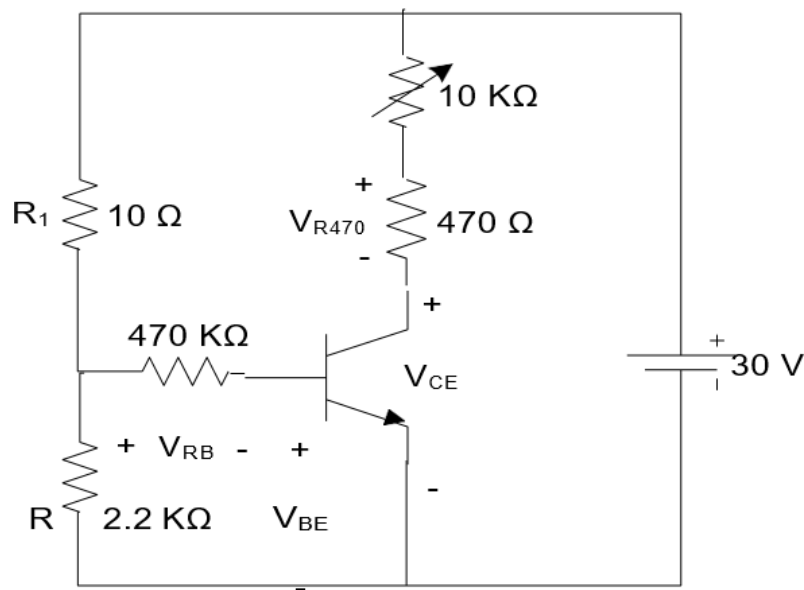

Figure 4.4: Experimental Circuit
1. Connect the circuit using Proteus Simulation software as shown in the Figure 4.4. Use $4.7\text{ K}\Omega$ as R .